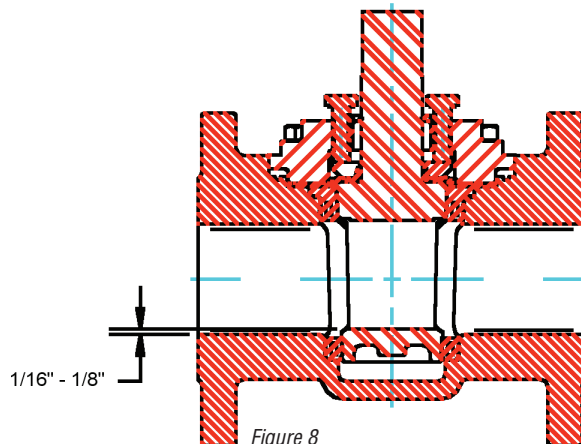

Figure 8
16. Install adjuster fasteners (Part 11) (Figure 8) and hand-tighten evenly to the values listed in Table 5d or until the bottom of the plug port is  $\frac{1}{16}$ " to  $\frac{1}{8}$ " above the bottom of the body port.